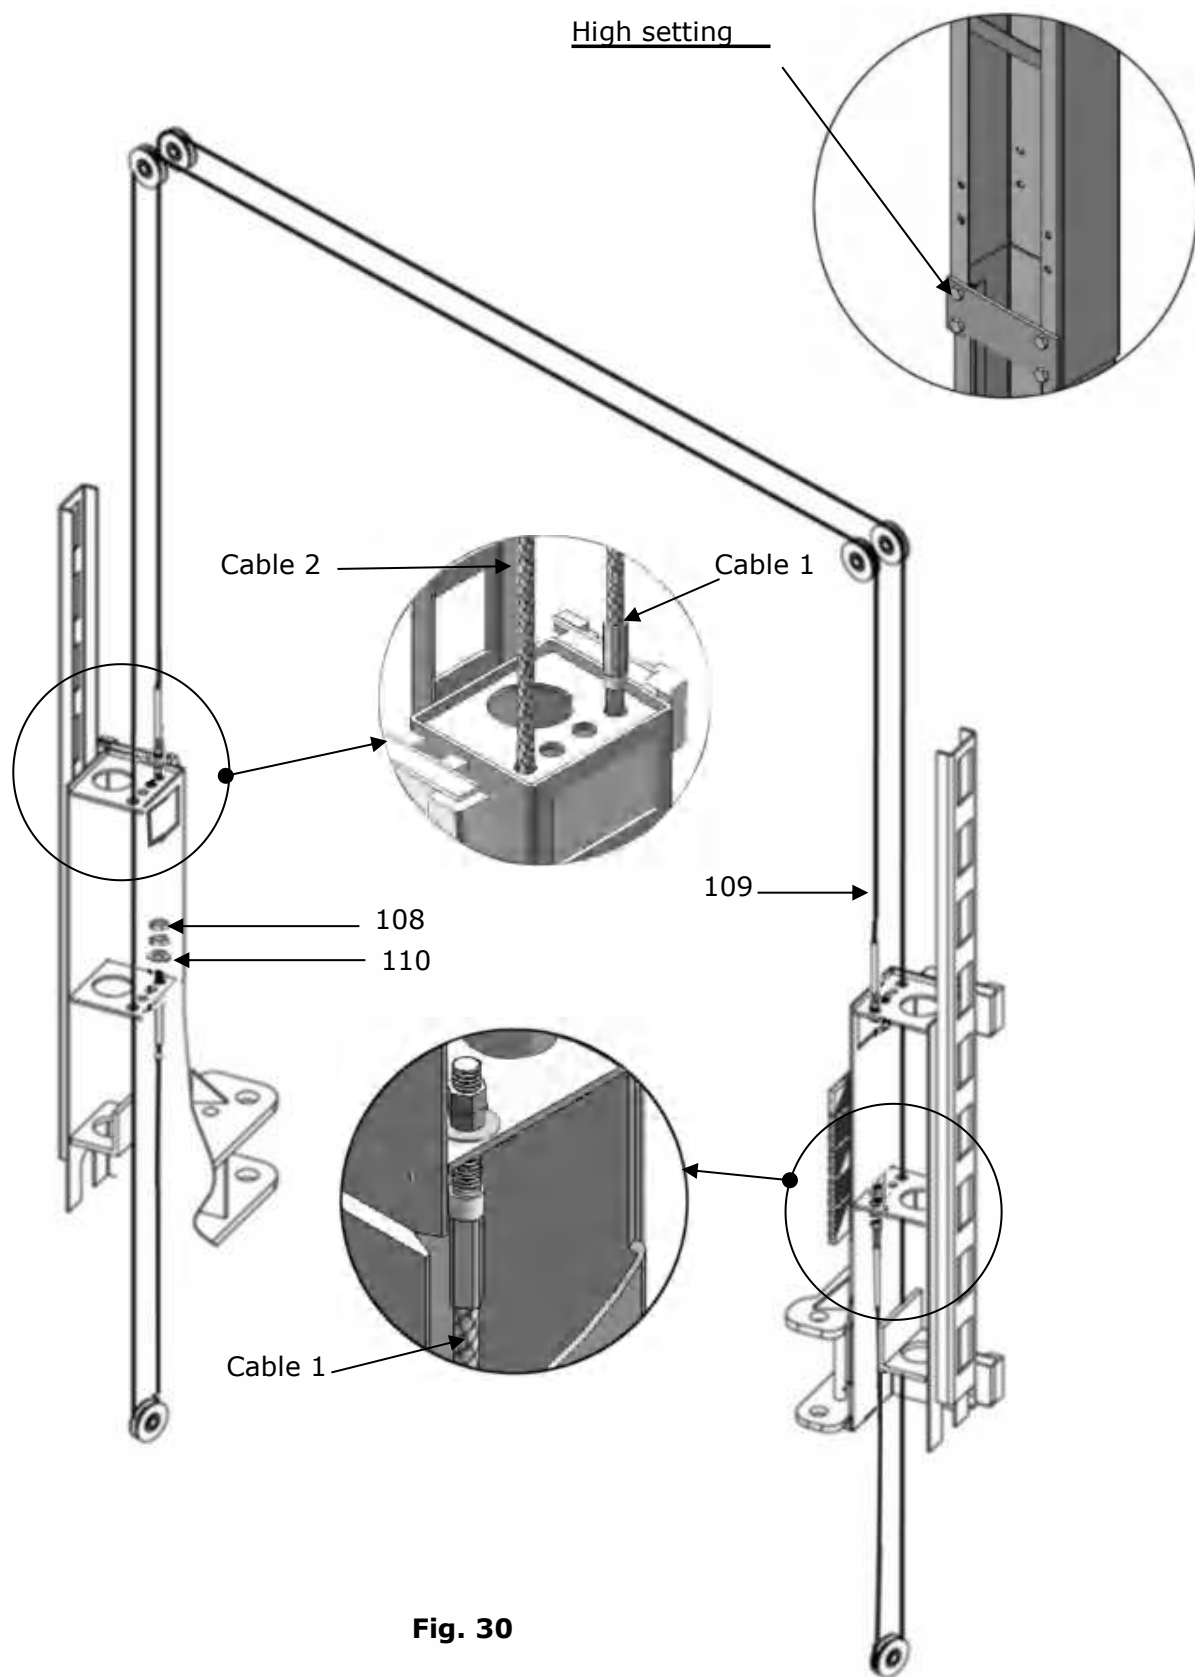

Fig. 30
1.2 Connecting cable for high setting (**See Fig. 30**)